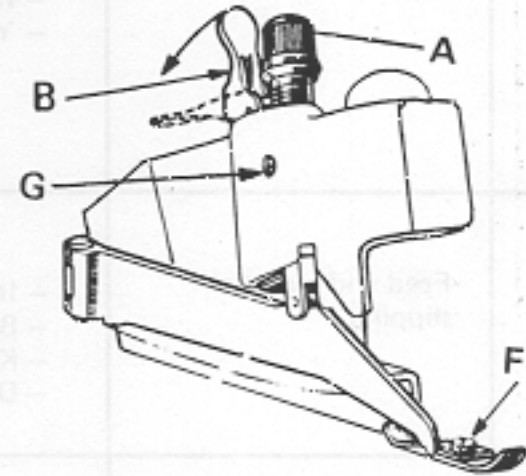

fig. 19
4. Press lever B right down (fig. 19).
#### c) Positioning and adjusting presserfoot pressure (fig. 19).